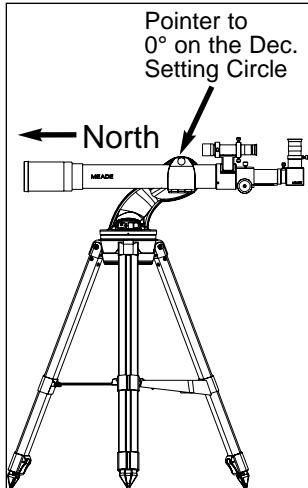

Fig. 16: Alt/Az Home Position.
1. Loosen the telescope's Dec. lock (see **Fig. 16 and 17**).
8. **Set Alt/Az Home Position** - Autostar then prompts you to set the telescope in the Alt/Az Alignment home position. To set your telescope in the "Alt/Az" home position (**Fig. 16**):
**IMPORTANT NOTE:** *The accuracy of One-Star Alt/Az Alignment, unlike the Two-Star Alignment procedures, depends on how well the observer levels the telescope and how close to North the telescope is pointed when setting the Home Position (Fig. 16). Because the Two-Star Alignment methods use two stars to align upon, they are more precise than One-Star Alignment.*